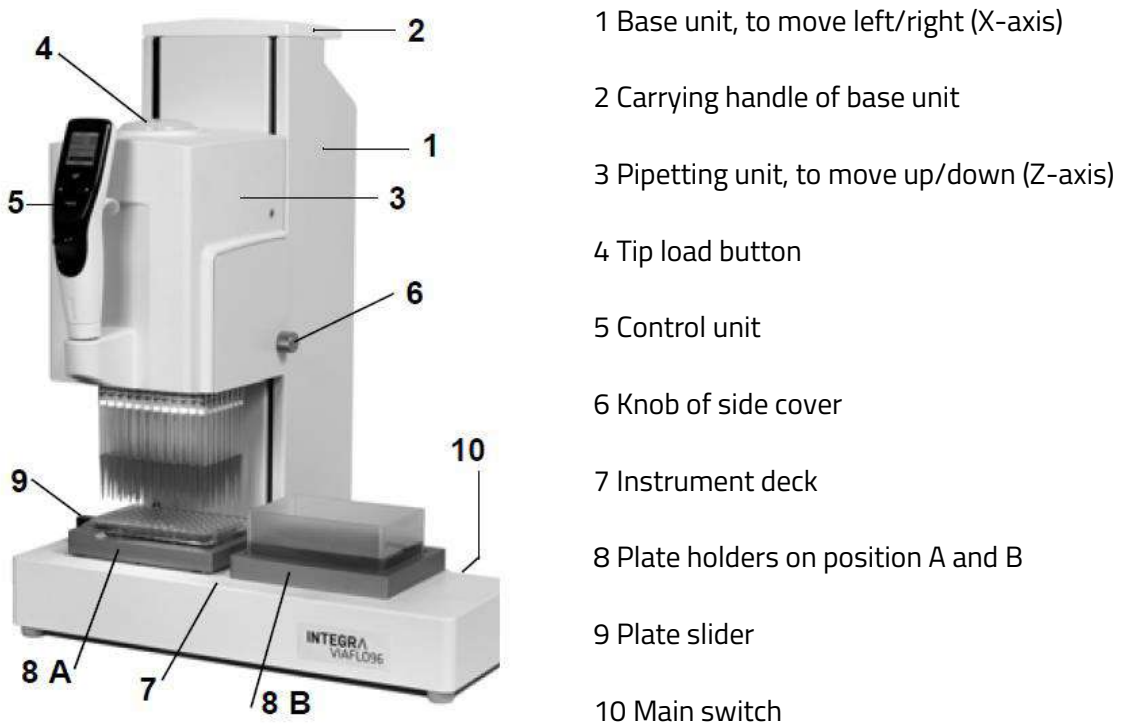

Figure 5: VIAFLO 96/384 Device
The unique design of the Akura™ 384 Plate enables the use of multi-channel pipetting systems for parallel liquid handling without the risk of spheroid loss. We recommend the INTEGRA VIAFLO 96/384 system as it is a compact, easy-to-use, semi-automated pipette system that can be configured for 384 channels (Figure 5) for increased productivity.
2. Place waste reservoir or plate for samples in position 8B (Figure 5), in the plate holder on the right.
3. Position the Akura™ 384 Plate onto a standard multiwell lid with the opening face down to allow manual positioning of the plate with a slight horizontal offset (1-2 mm) towards the "bottom of the plate" with respect to the tips. Move the plate and lid to position 8A (Figure 5), in the plate holder on the left.